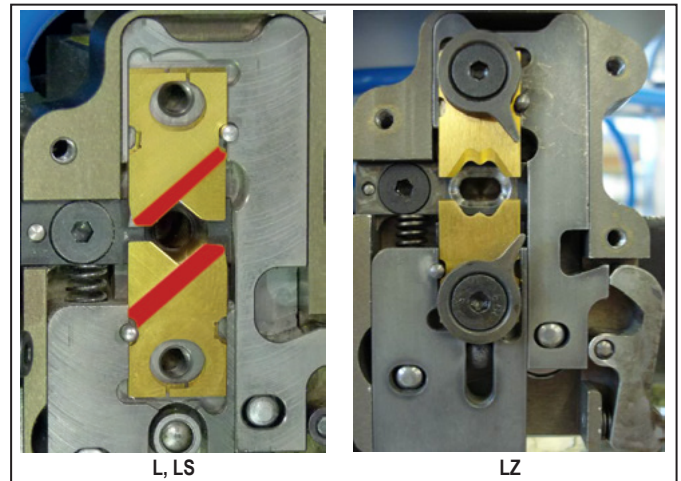

Figure 8.2 Blade alignment
- ▶ **L and LS:** Assemble each blade pair so that the bevelled edges point outwards (marked in red in figure 8.2). Place both blade pairs in the holder.